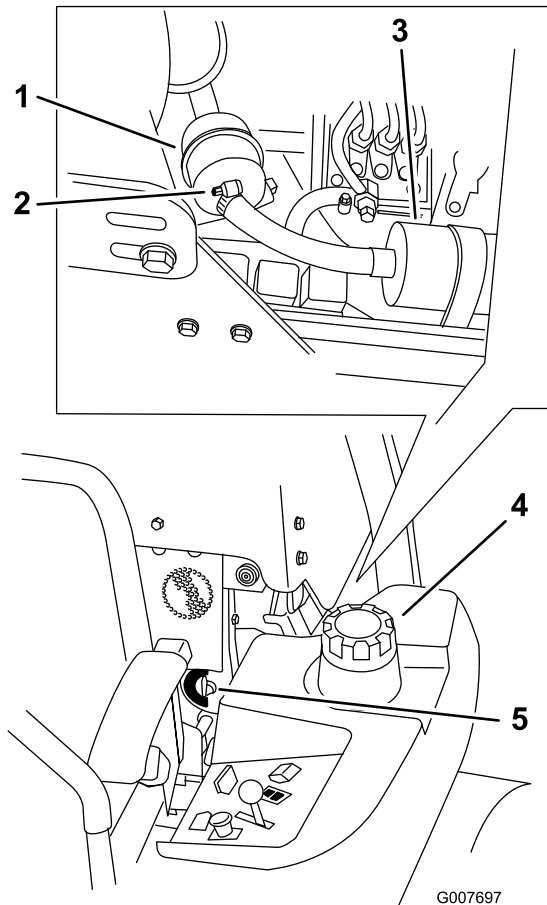

Figure 49
4. Close the fuel shut-off valve (Figure 49).
5. Loosen the two hose clamps and disconnect the fuel lines from the fuel filter (Figure 49).
6. Install a new filter. Connect the fuel lines to the fuel filter and install the two hose clamps (Figure 49).